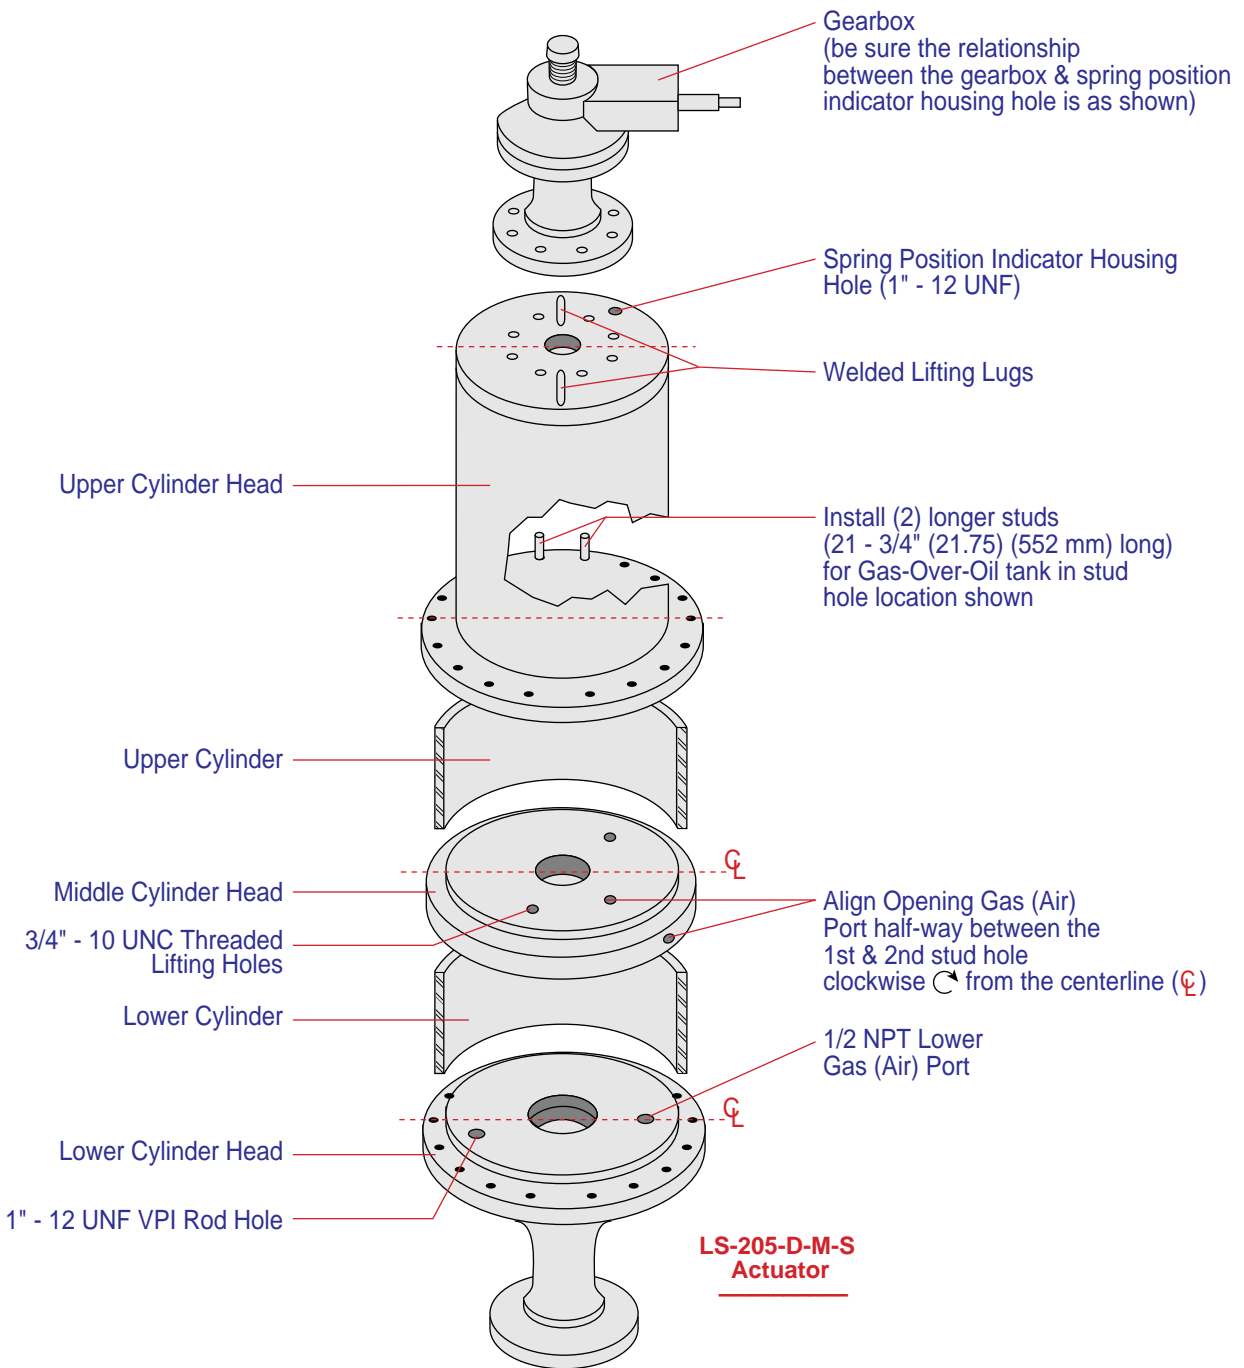

FIGURE 53
- ⓔ Refer to Figure 53 for proper head stacking orientation
18. Install the upper cylinder head (spring case) (Item 29) and align the marks “↑” with the middle and lower cylinder heads. (Note: If they were not marked at disassembly, align as shown in Figure 53.) (Note: If the cylinder head does not seat fully due to the spring, install four all-thread studs and nuts that are approximately three inches (76 mm) longer than the regular studs (Item 27). Evenly tighten these down to compress the spring until the rest of the regular studs can be installed. Then remove the longer studs and install the regular studs. Refer to Figure 51.)
19. Install the studs and nuts (Items 27 & 28) using a criss-cross pattern to tighten. (Note: There are two longer studs and these should be installed as shown in Figure 53 for the gas-over-oil tank.)
21. Install the O-ring (Item 24) onto the drive nut (item 22). Install the wiper ring (Item 63 - detail “B”) into the adapter spool (Item 15). Install into the adapter spool the bearings, drive nut, and bearing retainer (Items 23, 22, & 21). (Note: Be sure to hand pack the bearings and to properly install the wiper ring as shown in detail “B”).
23. Install the gearbox and adapter spool assembly onto the actuator by rotating it counterclockwise ↺ on the load stem (Item 16). Align the marks “↑”. (Note: If no marks were made at disassembly, align as in Figure 53.)